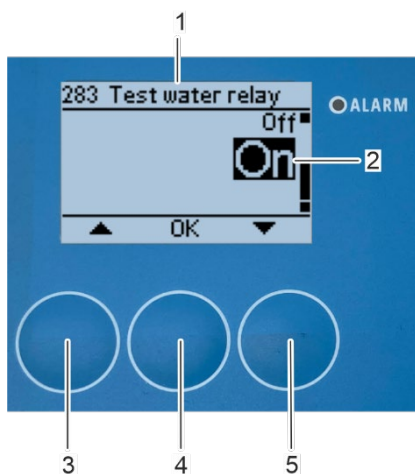

Fig. 150: Switch on water relay
⇒ The "283 Test water relay" submenu (Fig. 150/1) appears on the display.
3. Select "On" (Fig. 150/2) with the arrow keys [up] (Fig. 150/3) and [down] (Fig. 150/5).
4. Confirm the selection with [OK] (Fig. 150/4).